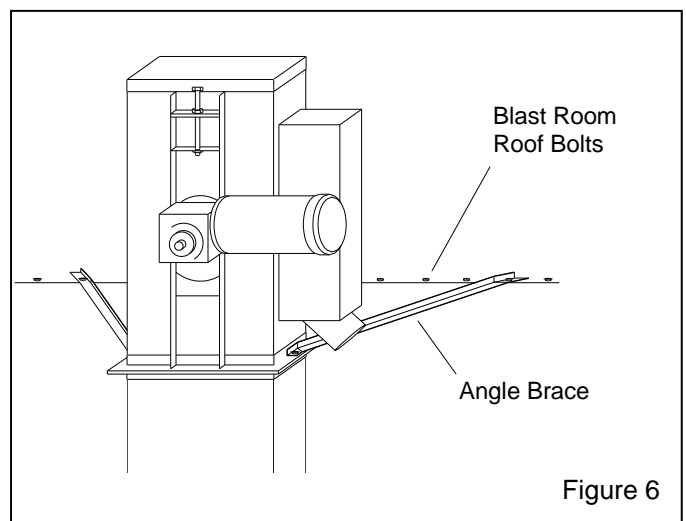

Figure 6
3.3.4 The elevator may require bracing to stabilize it. One method would be to attach diagonal braces from the elevator to the blast room, as shown in Figure 6.